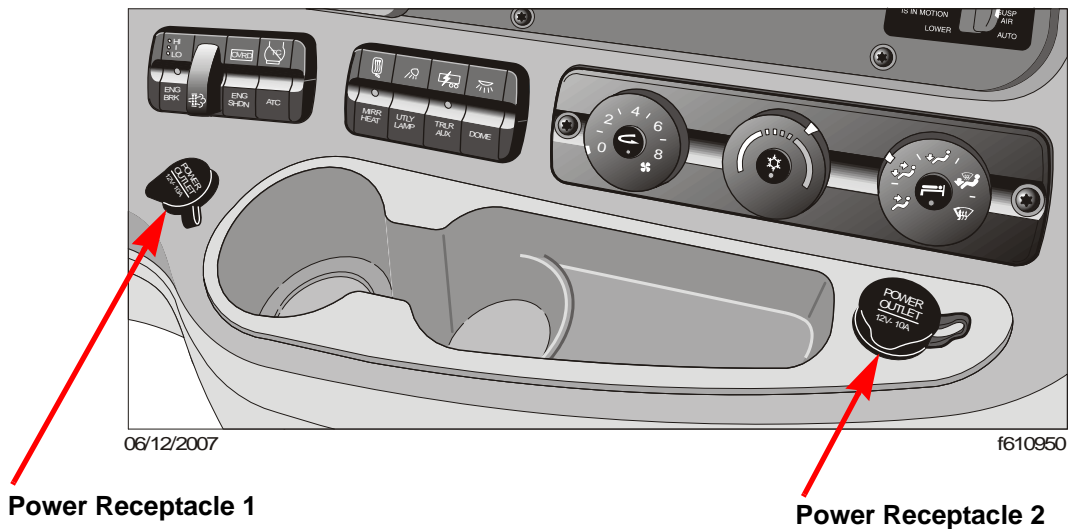

Figure 7-11: Dash Power Receptacles
- DC power receptacle 1, battery, dash (**Figure 7-11**)
- DC power receptacle 2, dash (**Figure 7-11**)